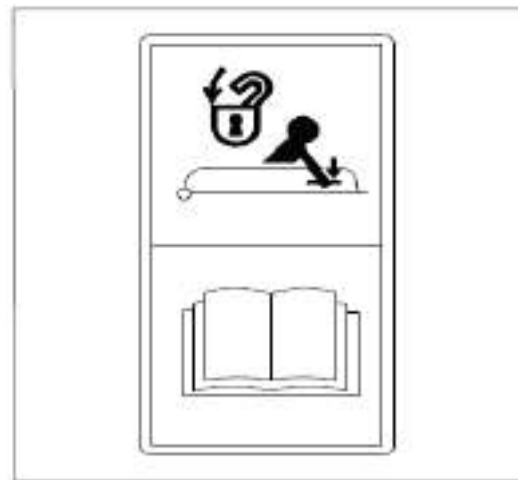

Figure 1-12 Engine hood lock sign
(11) Engine hood lock sign, as shown in Figure 1-12.